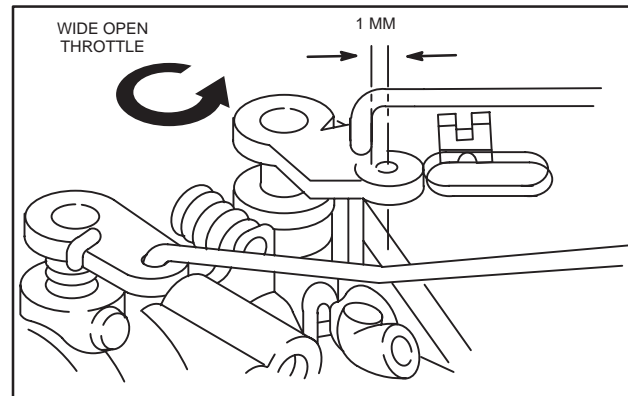

Fig. 27 – Checking Adjustment
- a. Position of governor link must be within 1 mm of center of hole in throttle lever as shown in Fig. 27.